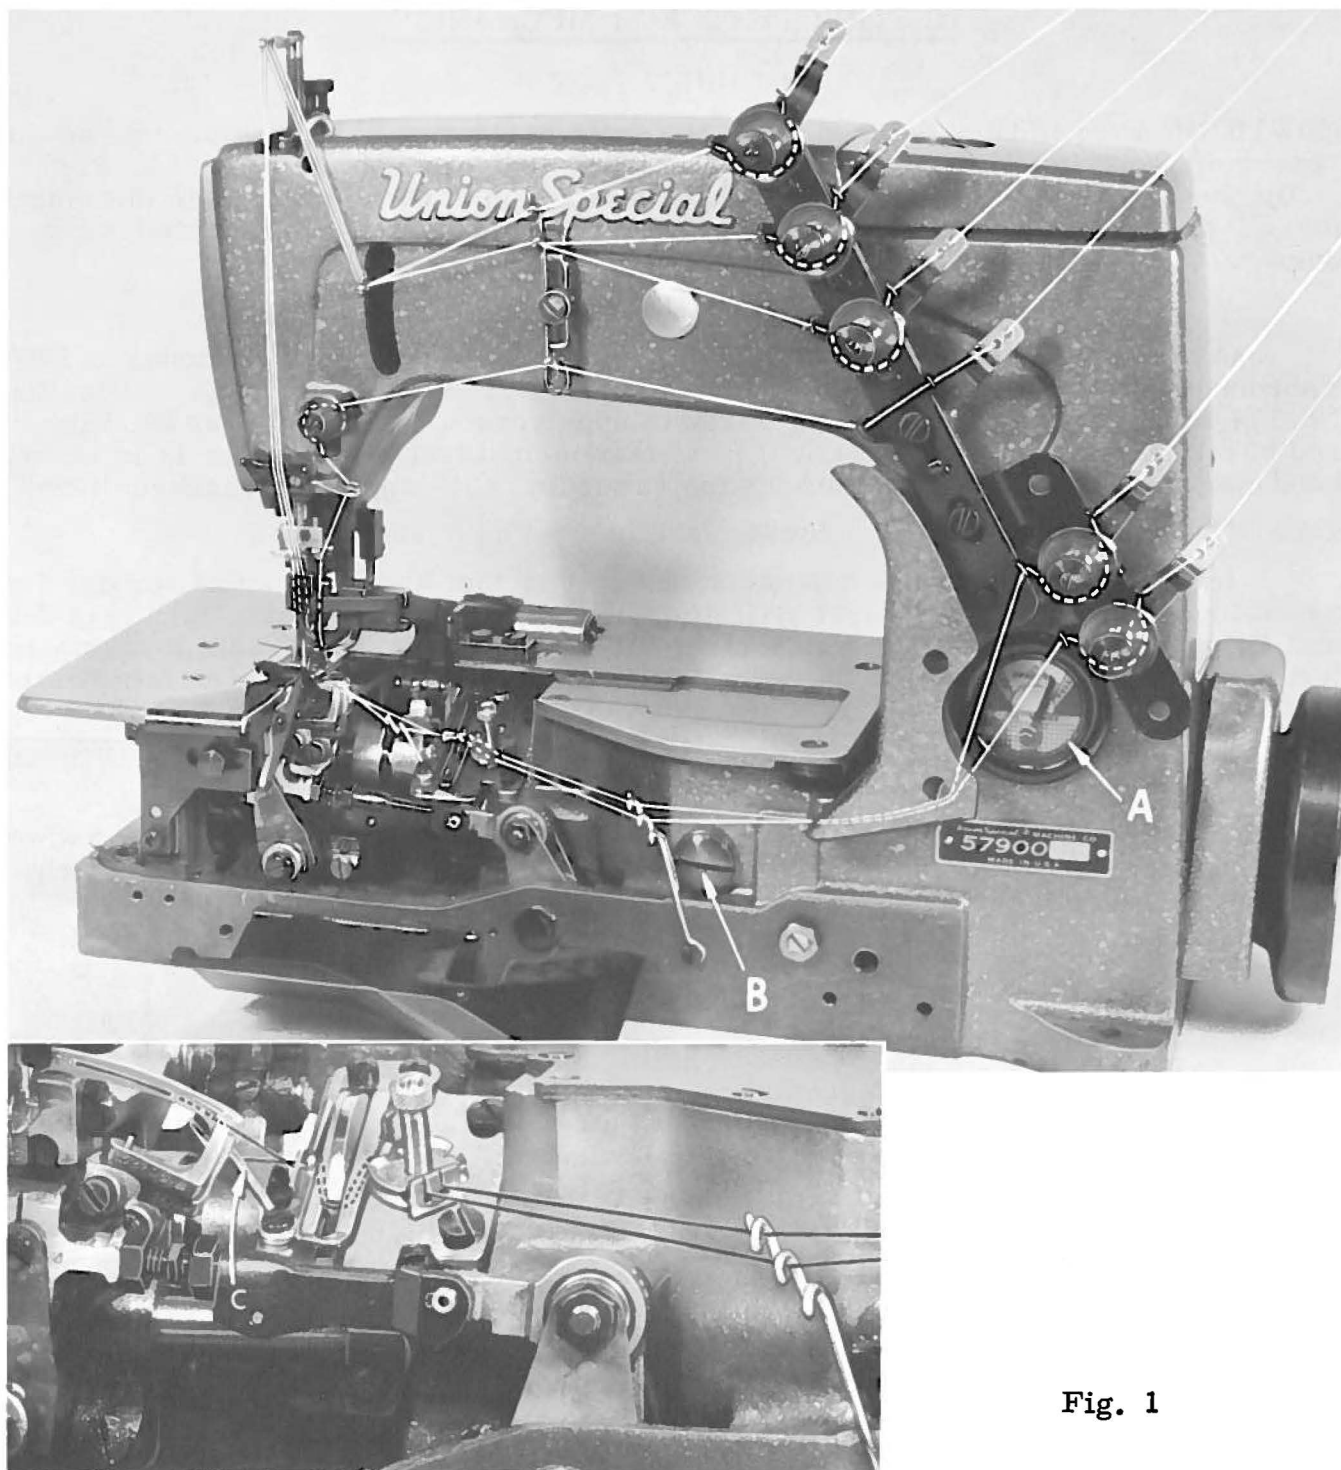

Fig. 1
Thread machine as indicated above. The looper threading has been enlarged for clarity. Only the back looper thread is threaded through the looper thread cast-off guide (C, Fig. 1).
The oil has been drained from the machine before shipping and so the reservoir must be filled before starting to operate. To fill machine with oil, remove plug screw in top cover and add oil until needle of oil gauge (A, Fig. 1) is in yellow band marked "FULL". Use a straight mineral oil of a Saybolt viscosity of 90 to 125 seconds at 100° Fahrenheit. Maintain oil level in "OPERATE" position and add oil when needle is in yellow band marked "LOW". The machine is automatically lubricated and no oiling other than keeping the main reservoir filled is necessary.
Excessive oil in the main reservoir may be drained at the plug screw (B, Fig. 1).
**CAUTION!** Oil has been drained from the main reservoir before shipment, so the reservoir must be filled to the proper level as indicated on oil gauge (A, Fig. 1) before beginning to operate. Run machine slowly for several minutes to distribute the oil to the various parts. Full speed operation can then be expected without damage.